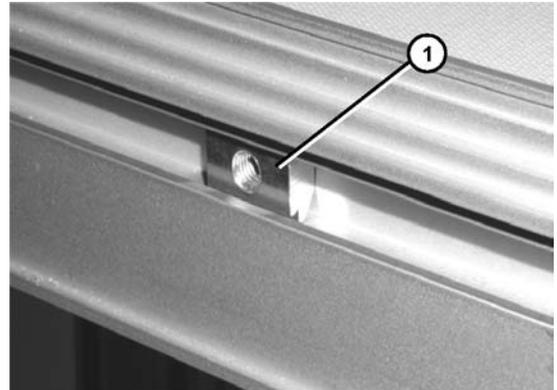

**Figure 17**
2. Attach button box kit (**Figure 17, item 1**) to conveyor with screws (**Figure 17, item 2**).